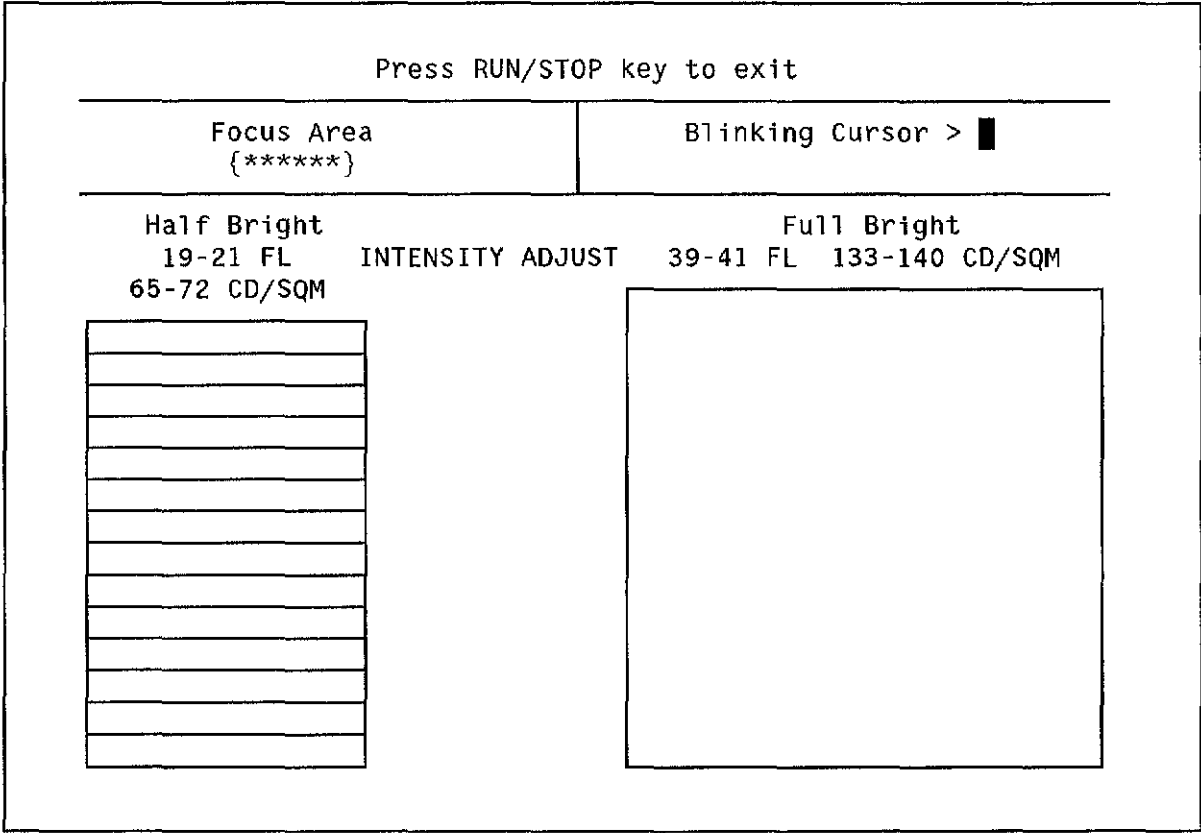

Figure 4-8. Intensity Adjust Pattern
12. Activate the Intensity Adjust Pattern as shown in figure 4-8 by pressing the NEXT key.